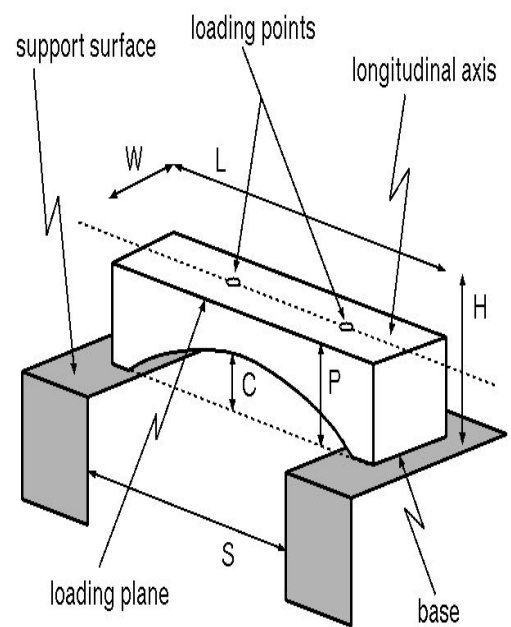

Figure 1. Bridge schematic (not to scale).
2. The bridge (see Figure 1) must span a gap (S) of 300mm (1 foot) but be no longer (L) than 400mm, have a maximum width (W) of 100mm but be no narrower than 14mm, and be no taller (H) than 150mm above the support surfaces. The bridge must be constructed to permit a clearance (C) of 20mm above the support surface at the midpoint of the span. No part of the bridge may extend below the support surface.
3. The loading plane (P) shall be horizontal and shall lie between 30mm and 40mm above the support surfaces.